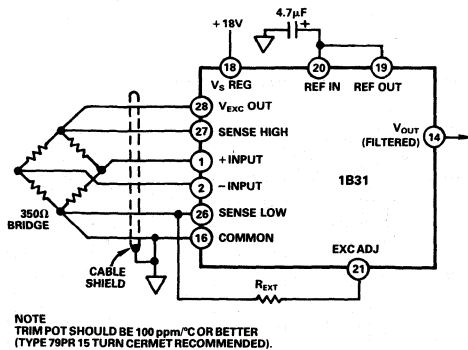

Figure 5. Increasing the Excitation Voltage: +10V to +15V Range.
**Voltage Excitation Programming:** The excitation voltage is preset to +10V when Pin 19 is connected to Pin 20. To increase  $V_{EXC}$  up to +15V a resistor must be connected between EXC. ADJ. and SENSE LOW (Pins 21 and 26) as shown in Figure 5. For a desired  $V_{EXC}$  the resistor value,  $R_{EXT}$ , is determined by the following equations: